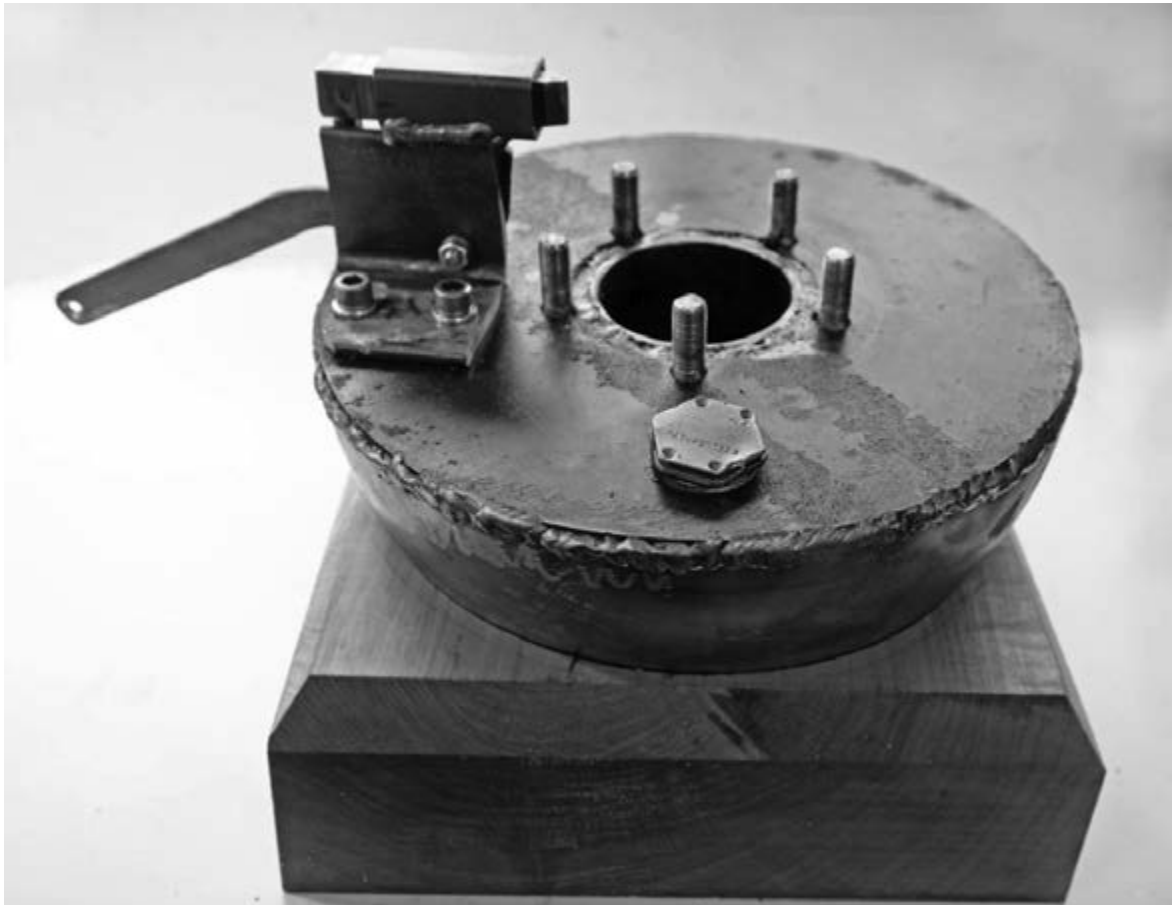

Figure 11
- 9) Fasten the Hub/Spindle & Table Platform sub-assembly to the Top Plate with five (5) lug nuts using a “crisscross” pattern to uniformly tighten nuts. Choose a candidate position for the Table Lock Mechanism, (Figure 11); configure as:
Carefully turn over the assembly to prepare to weld the sub-assembly. To minimize heat induced warping, weld ~ 1 ” sections in a “crisscross” manner until the joints perimeter is fully welded (the “stitched” pattern can be masked with a “weave” welding pass). Figure 11, illustrates the assembled welded Hemispherical Base and Table Lock Mechanism sub-assemblies located on a spherical-sector ball joint wood stand.